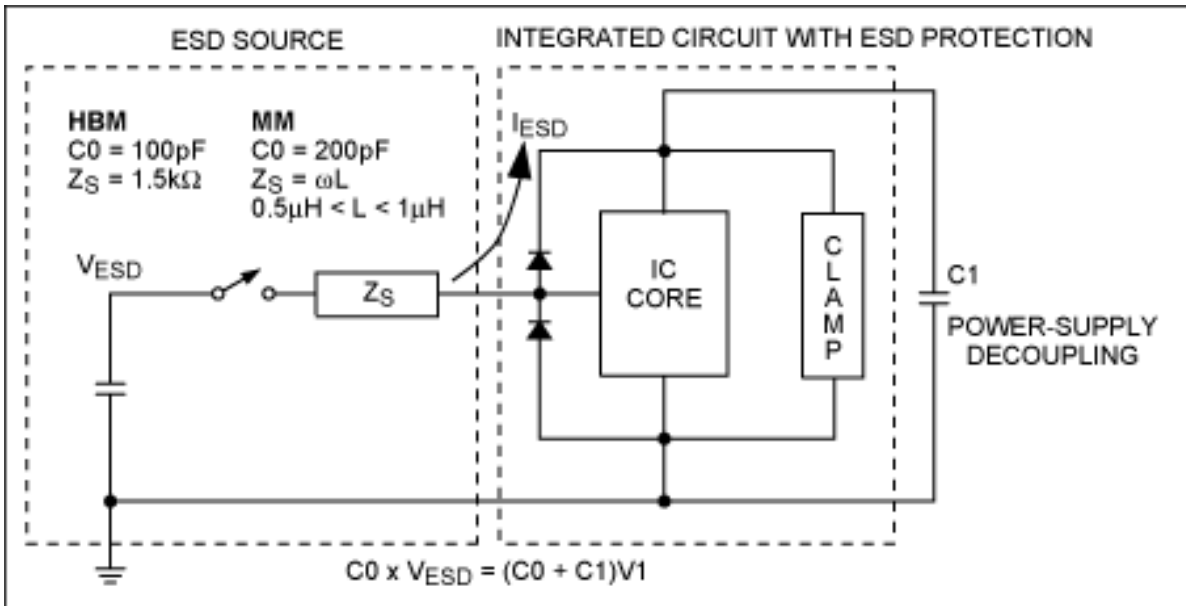
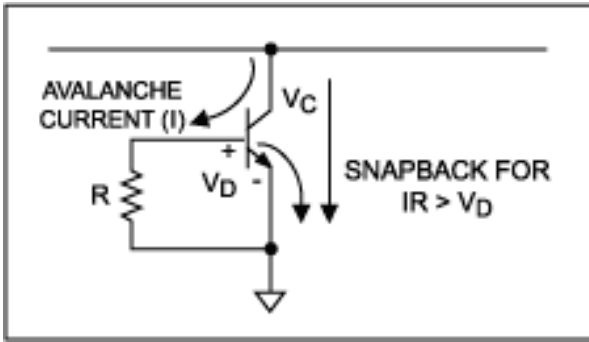

Figure 1. Models for ESD testing.
Figure 3. Clamp circuit for the clamp shown in Figure 1.
Two models of charged objects are commonly used for ESD tests (**Figure 1**). The human body model (HBM) represents charge stored on a person's body (the 100pF capacitor) with discharge through the skin (the 1.5k Ω resistor). The machine model (MM) represents charge stored on a metallic object. Discharge in the MM is then limited only by the interconnect inductance.
For the HBM in Figure 1, $Z_S = Z_{HBM} = 1.5\text{k}\Omega$
$$V_1 \times (C_0 + C_1) = V_{ESD} \times C_0 \quad (\text{See Figure 1.})$$
4. The energy levels, when applied over a short period that can damage an IC, are on the order of micro-Joules. This is an important consideration when external supply decoupling capacitors are present. The energy delivered to the IC for supply capacitance (C_1) in Figure 1 is given by:
Standard protection schemes limit the voltage and current that can reach the IC core circuitry. Protection devices illustrated in Figure 1 include:
To determine whether an IC can handle an ESD level such as 2kV, consult the manufacturer's documentation. The rating for the IC will state the maximum voltage, V_{ESD} in Figure 1, which the IC can withstand for a specific type of ESD source. The ESD tolerance for a Maxim IC can be found in the device's reliability report.
Clamp operation in a bipolar IC is similar to the onset of breakdown in the core circuits being protected. **Figure 3** shows a detailed circuit for the clamp in Figure 1. Overvoltage on the clamp transistor results in avalanche current from collector to base. Forward bias of the base emitter further increases collector current, thus producing a
The protection of the IC in an application can be improved by carefully selecting the size of the decoupling capacitors. Stored energy decreases with capacitance once the ESD charge no longer produces enough voltage to turn on the clamp. Consider this example for supply decoupling capacitor $C_1 \gg C_0$ in Figure 1: